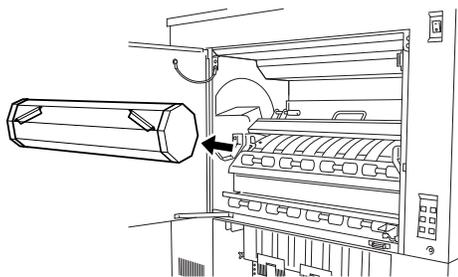

Figure E-2
3. Open the left-side door and remove the fuser filter. (Figure E-2)